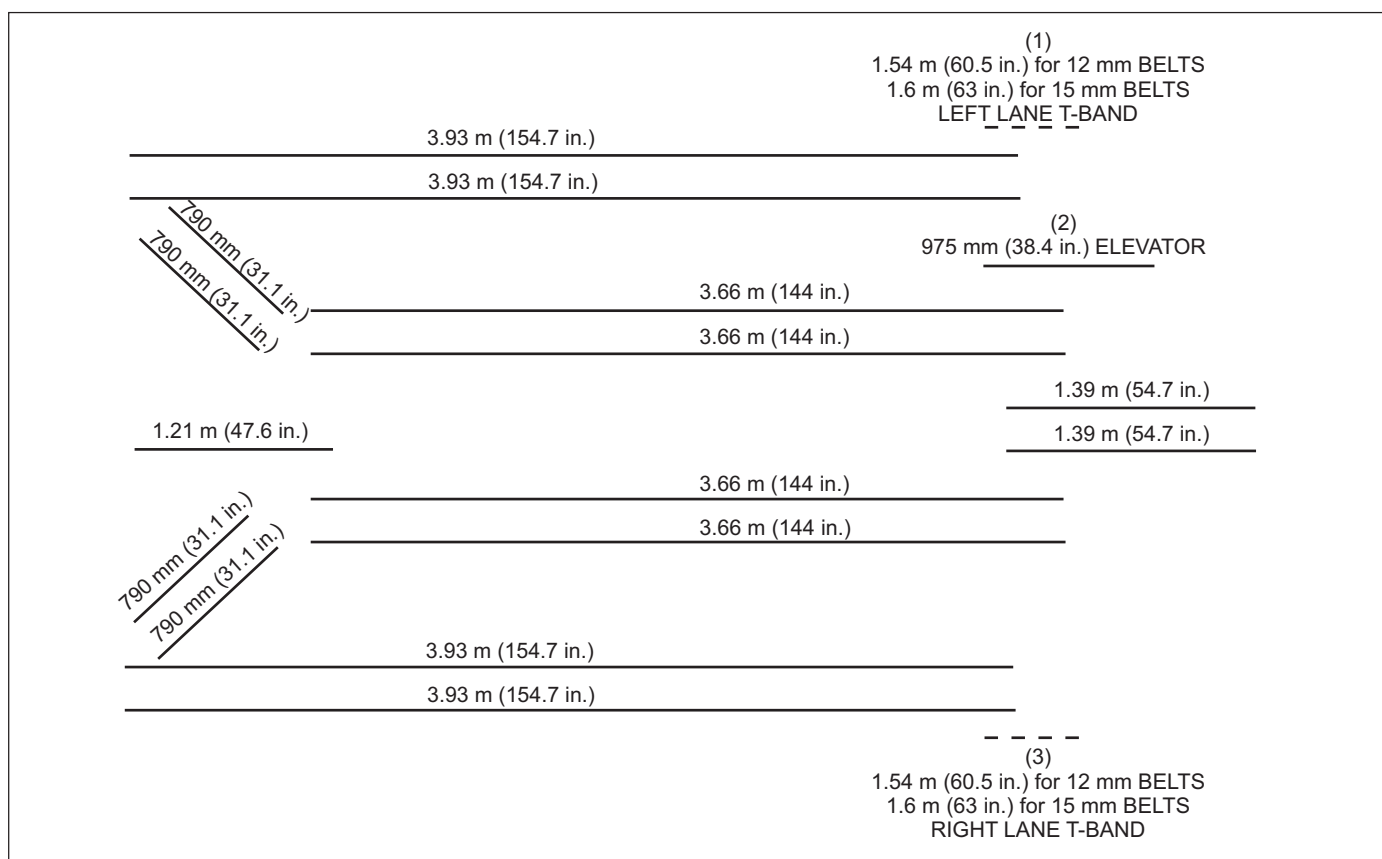

Figure 8-4. Round Belt Lengths.
1. Figure 8-4 gives nominal lengths of all distributor belts. The dotted lines represent belts that are not factory installed.